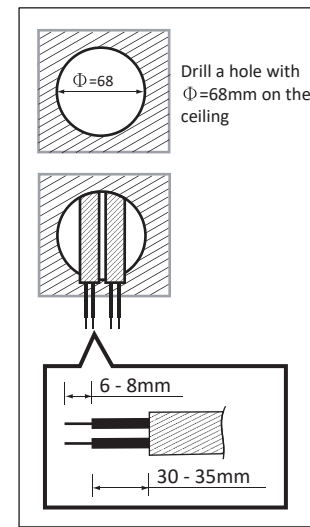

FIG.6
1. To install the detector, please drill a hole with diameter of 68mm. Please strip off 6 - 8mm of cable sheathing for wiring. (See FIG.6)